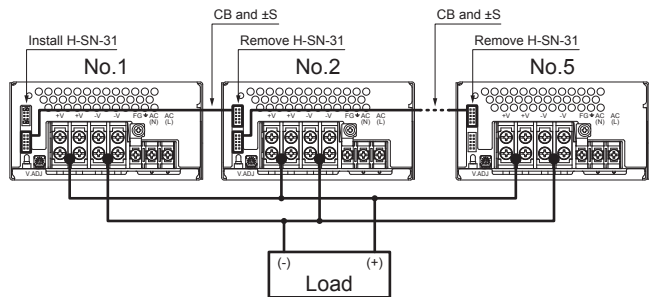

Fig.6.13 Parallel operation condition (Example of PJA600F)
- ① (Before wiring) set the output voltage of each unit to the desired value. The output voltage difference between the units must be less than 0.1V or 1% of the rated output voltage, whichever is smaller.
- ② Wire the power supplies as shown in Fig. 6.13. Make sure the output wires of the unit connected in parallel are of the same length and the same type.
- ③ Make sure the total output current does not exceed the value determined by the following formula: